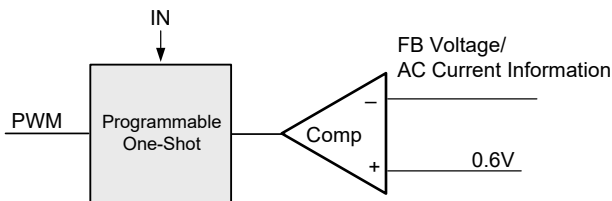

Figure 3. Simplified Control Schematic of AOZ2262NQi-11
The simplified control schematic is shown in Figure. 3. The high-side switch on-time is determined solely by a one-shot whose pulse width can be programmed by one external resistor and is inversely proportional to input voltage (IN). The one-shot is triggered when the internal 0.6V is higher than the combined information of FB voltage and the AC current information of inductor, which is processed and obtained through the sensed lower-side MOSFET current once it turns-on. The added AC current information can help the stability of constant-on time control even with pure ceramic output capacitors, which have very low ESR. The AC current information has no DC offset, which does not cause offset with output load change, which is fundamentally different from other V² constant-on time control schemes.